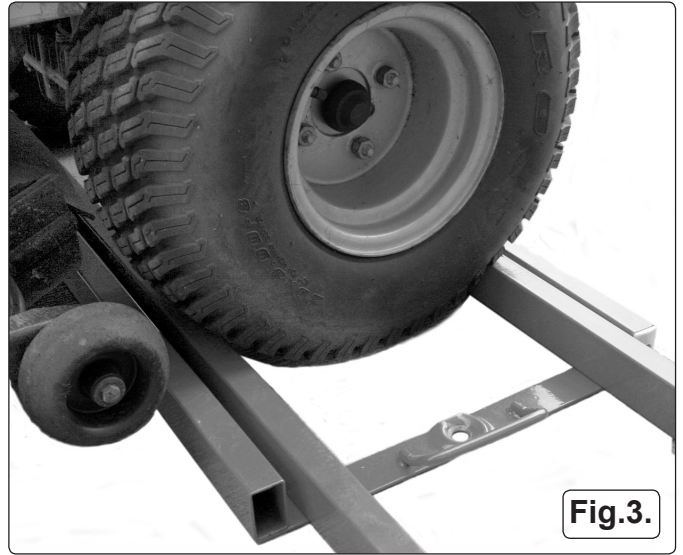

Fig.3.
- 3.2.4. Position the vehicle's wheels over the lifting cradle, by manually manoeuvring it into position (fig.3).